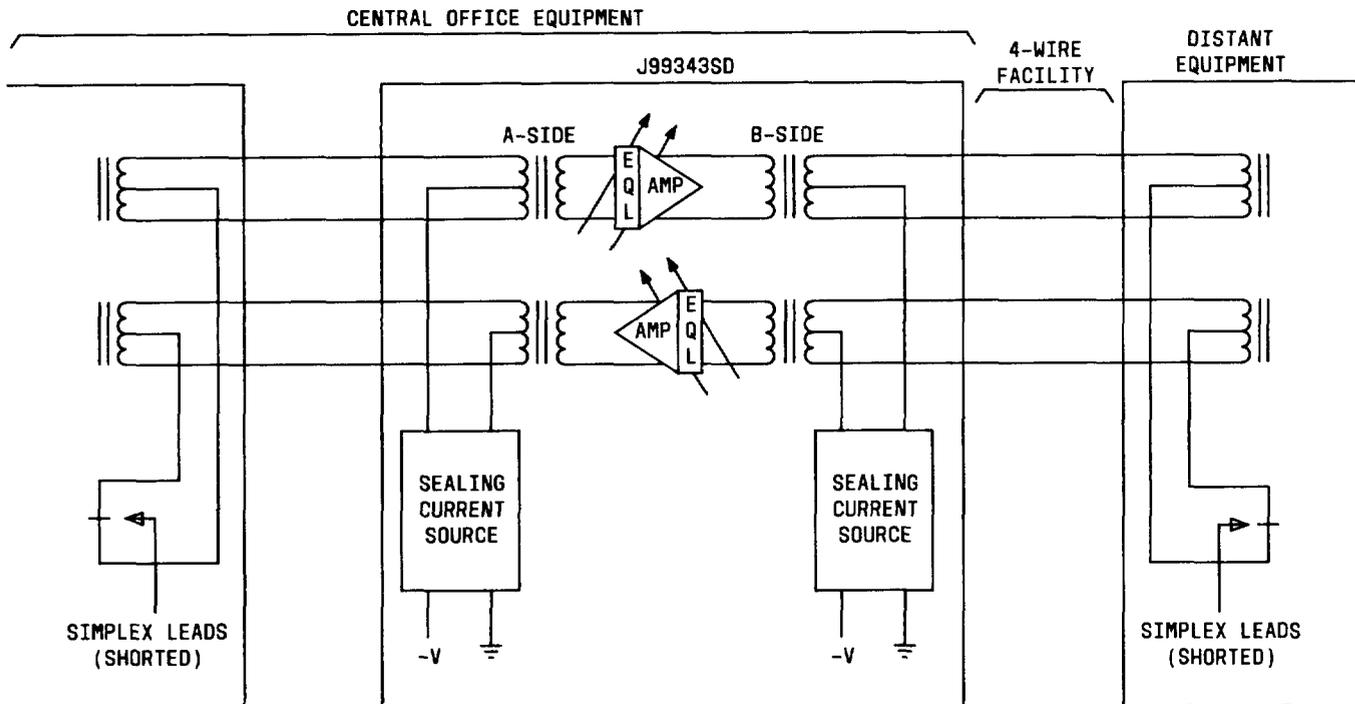

Fig. 8—Typical Applications of the J99343SD Transmission Unit With Sealing Current
**3.10** A typical example of a sealing current arrangement using the J99343SD unit is shown in Fig. 8. In order for sealing current to flow in the loop, the equipment on the distant end of the loop must have the capability of shorting the associated simplex leads.